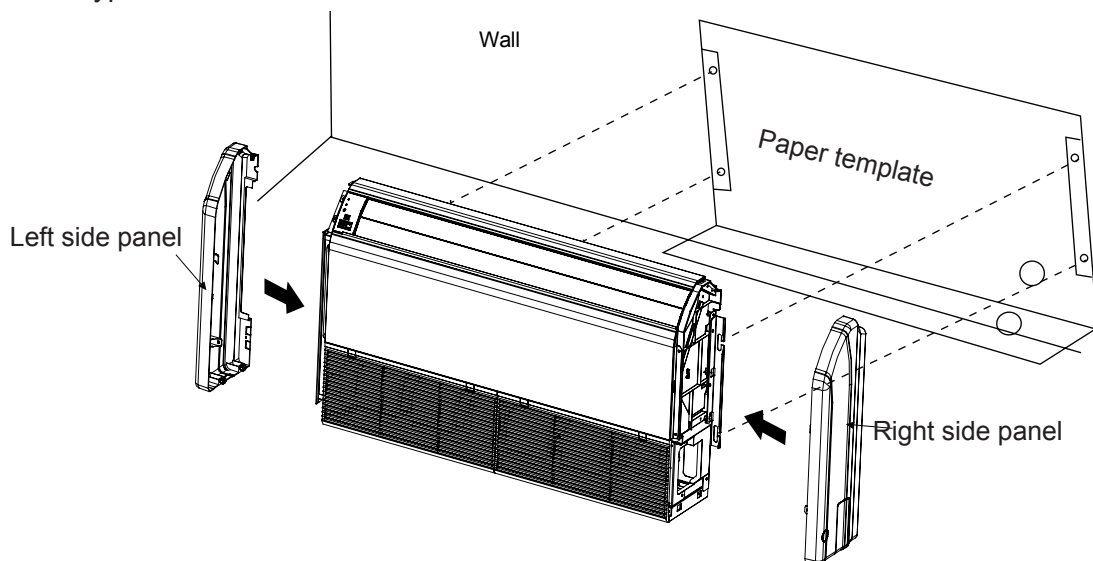

Fig 4.1.2.2
- (5) Reinstall and tighten the right and left side panels, as shown in Fig 4.1.2.3.